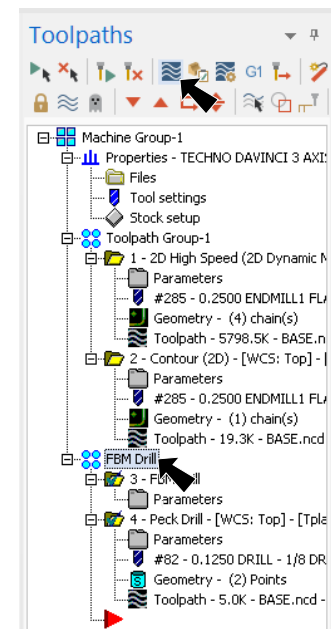

Fig. 70
Step 2. Click **FBM Drill Machine Group** in the Toolpaths Manager to select FBM Drill group, **Fig. 70**.
Step 3. Click **Backplot**  in Toolpaths Manager, **Fig. 70**.